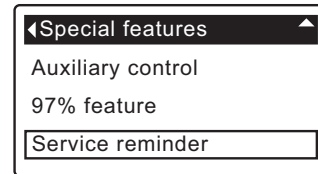

FIG. 84
1. From any of the rolling status screens, press the SELECT (O) button to display the **Main menu**.
3. Press the SELECT (O) button to display the Advanced settings menu.
5. Press the SELECT (O) button to display the Special features menu (See Figure 84).
9. Press the SELECT (O) button. The display will go back to the Special features menu (Figure 84).